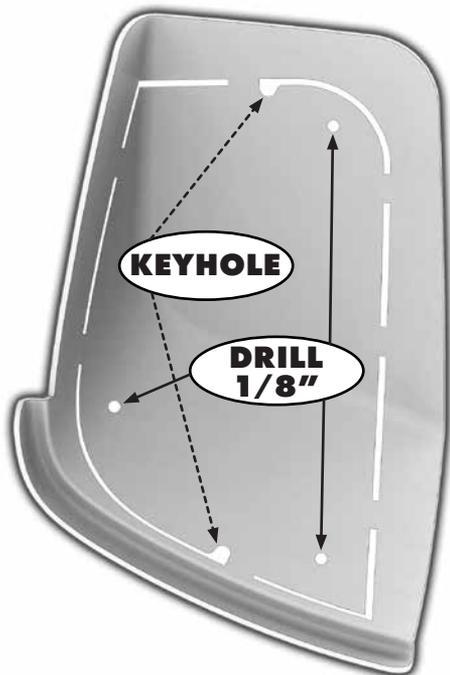

Figure 1.3
- Step #2: Using Fig 1.3, put the correct template on the correct lid and drill through the 3 holes in the template using a 1/8" (3mm) drill bit. Locate 3 of the supplied "pointy" ended screws and using hand tools, secure the template to the lid. You will also see "keyhole" shapes in each template where you will start to cut when its time. Drill a 1/8" (3mm) "starter hole" in each of these key holes and then enlarge these holes to 5/16" (8mm)